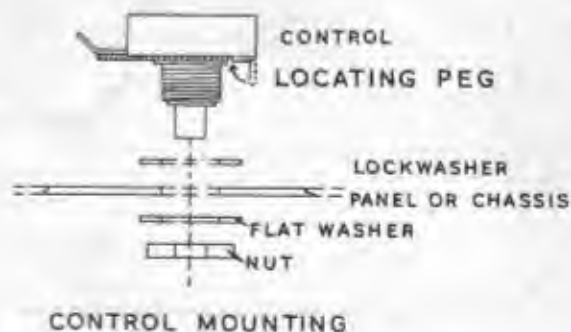

FIGURE 4.
- ( ) Take the 1 megohm SPOT SHAPE control QQ, bend the locating peg and install as shown in Figure 4.